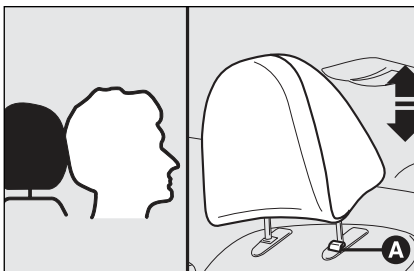

fig. 34
- ☐ to lower: press button **A**-fig. 34 and lower the head restraint.